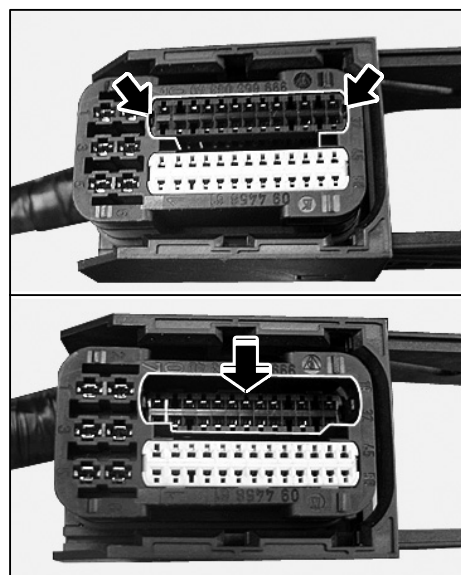
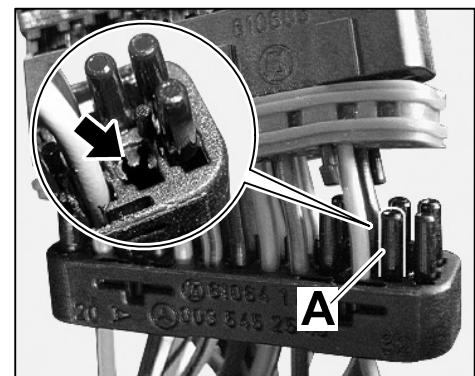

Figure 20
Figure 22
- 4.4.3 Carefully release locking lugs ⇒ *Figure 20 -arrows-* and press plug socket (chamber 1-32) out of the connector housing.
- 4.4.5 Break sealing plug ⇒ *Figure 22 -A-* out of chamber 31. Use a suitable tool to remove any pieces that do not break off ⇒ *Figure 20 -arrow-*.